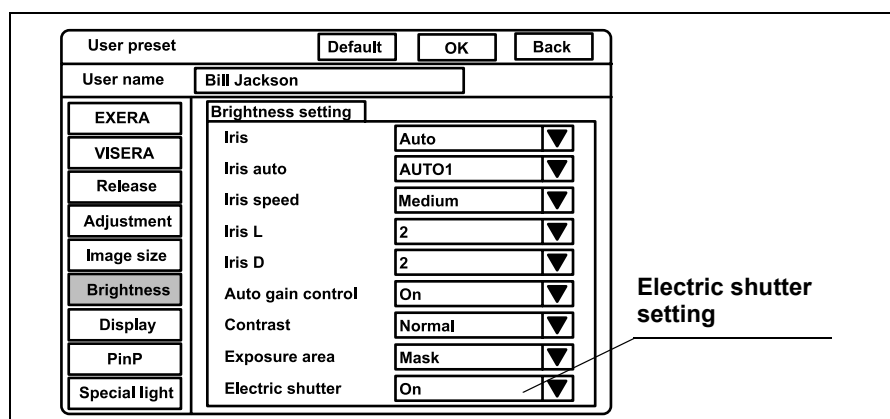

Figure 9.30
1. Click “▼” of “Electric shutter” (see Figure 9.30). The setting values ON and OFF appear in the pull-down menu.